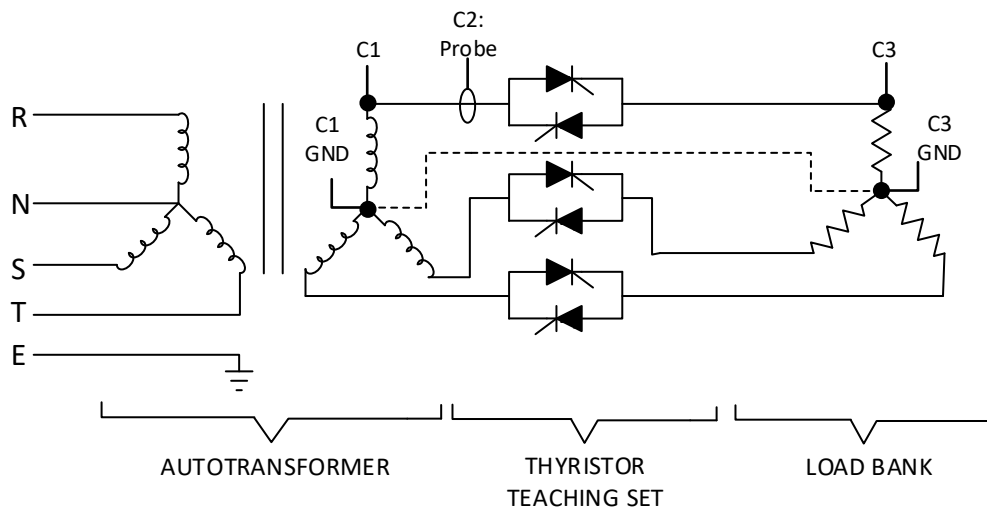

Fig.1.2. Connection diagram for the experiment.
Connection diagram for the experiment is given in Figure 1.2. For each phase, enable all four resistors on the load bank. Make sure that neutral point of the Y connected load is wired to the neutral point of the autotransformer.
- Use channel 1 for V_{IN} , channel 3 for V_{OUT} and channel 2 for current sensing, as depicted in Fig 1.2.